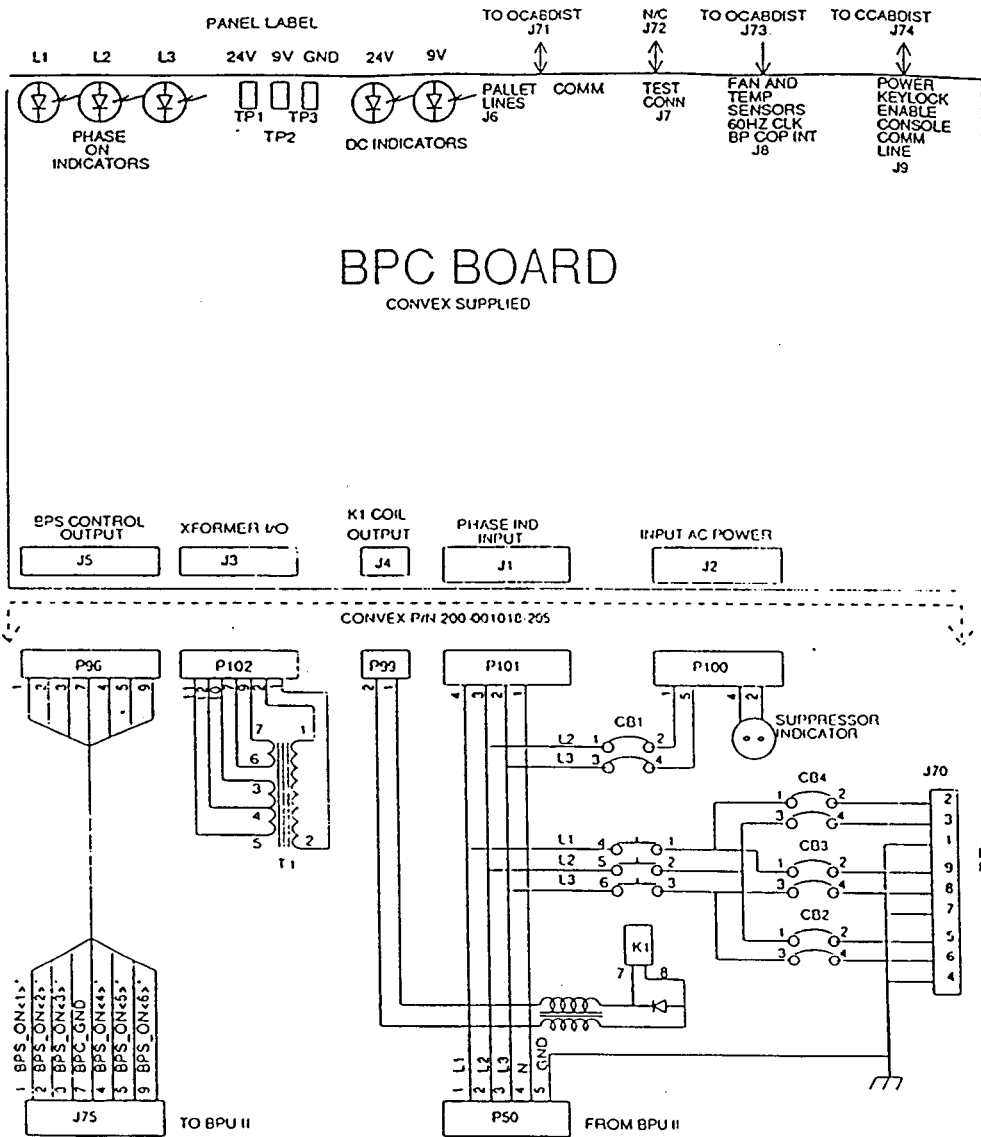

Figure 1-4
2.3 Bay Power Controller Enclosure (BPCE) (Figure 1-4)